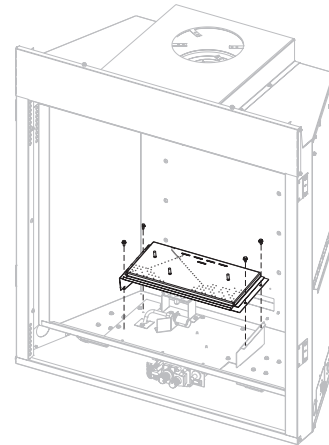

Figure 9
6. Remove the four screws securing burner and slide to right then lift burner off. Retain burner and screws for reassembly. **See Figure 9.**
13. Reinstall the burner and four screws removed in step 6. **See Figure 9.**